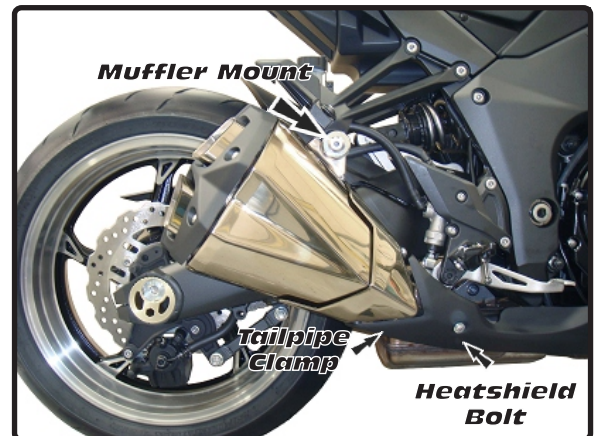

Fig. 2
- Remove right side muffler heatshield bolt and heatshield. ( Fig. 2 ).
- Loosen right side tailpipe clamp ( Fig. 2 ).
- Remove right side muffler hanger bolt ( Fig. 2 ).